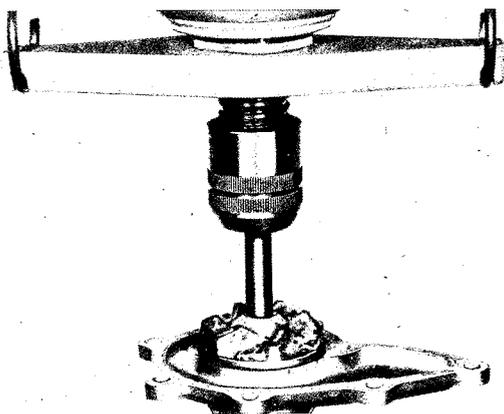

Fig. 3-11 Installing impeller
11. Press the impeller onto the shaft until it is flush with the end of the shaft as shown in Fig. 3-11.